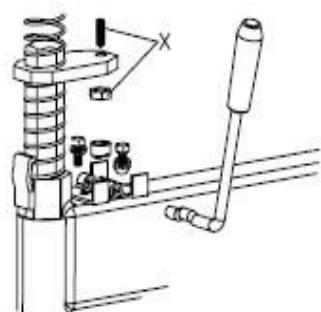

Fig. 12
If hexagonal vertical arm not be locked or not meet the requirement that 2-3 mm from the bottom of mounting/demounting head to rim, please adjust hexagonal locking plate, refer to figure 12 and adjust the (X).